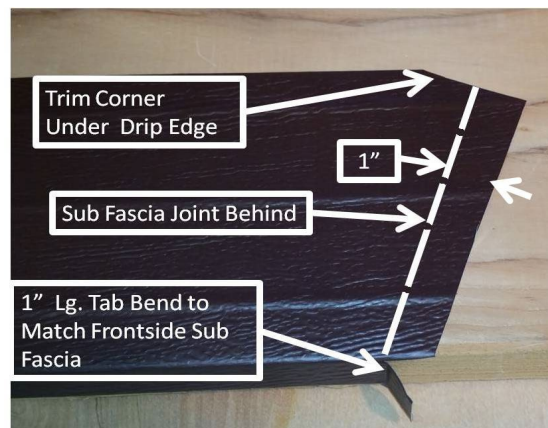

Figure 11-27. Gable Peak Back Side Fascia.
13. Cut the flange and trim the top corner as shown on Figure 11-27, and bend the tab to match the front-side gable angle. This small tab will cover the bottom of the joint and the top corner is trimmed to prevent any interference with the drip edge.